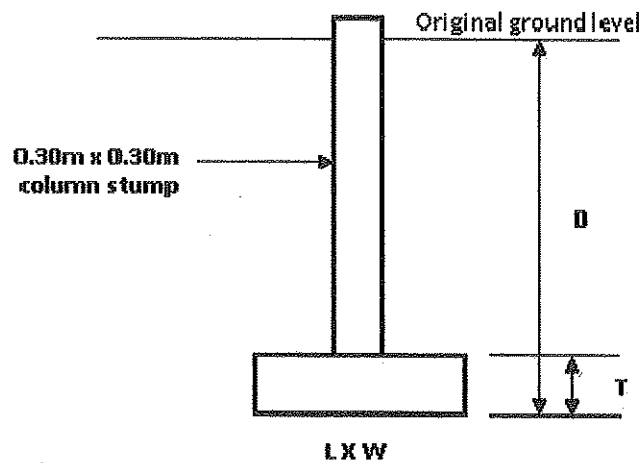

Figure B2(c)/Rajah B2 (c)
- (c) Based on the information given in Table B2(c) and Figure B2(c), calculate construction cost for concrete work (1:2:4 -20mm agg.) mixed by hand.